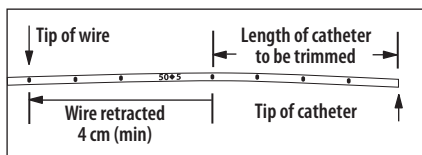

Figure 2
8. Withdraw placement wire/stiffening stylet through septum to retract wire a minimum of 4 cm behind catheter cut location (refer to Figure 2).